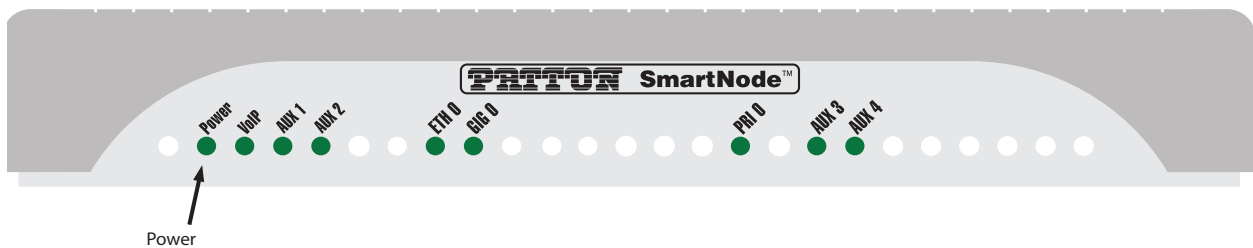

Figure 7. Power LED
4. Verify that the green *Power* LED is lit (see figure 7). Blinks fast during bootloader phase and blinks slow during boot process of Trinity Software. Becomes solid when the system is up and running.